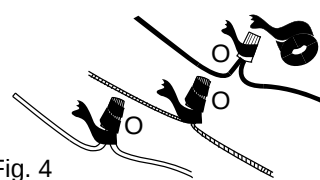

Fig. 4
4. Insert remaining motor screws (K) along with lock washers (M). [Fig. 4] Tighten all motor screws (K) securely.